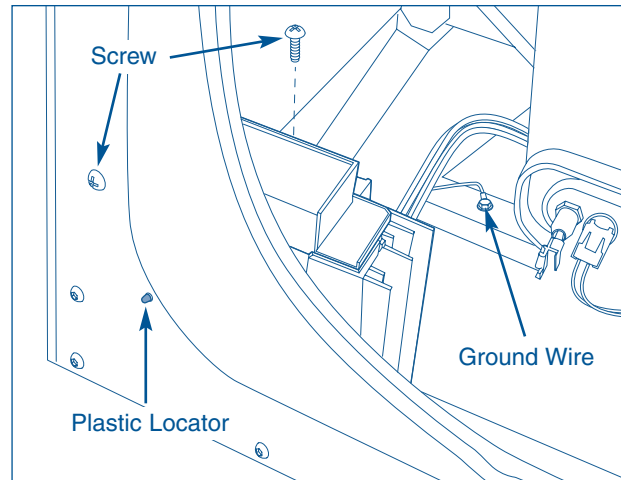

Figure 4-52.
3. Using a #2 square bit screwdriver, extract the screw securing the ground wire to the unit base. (See Figure 4-52)
4. From inside the washer, extract the screw securing the speed control assembly to the unit base. (See Figure 4-52)
5. From outside the unit, extract the screw from the rear panel that secures the speed control assembly to the rear panel. (See Figure 4-52)